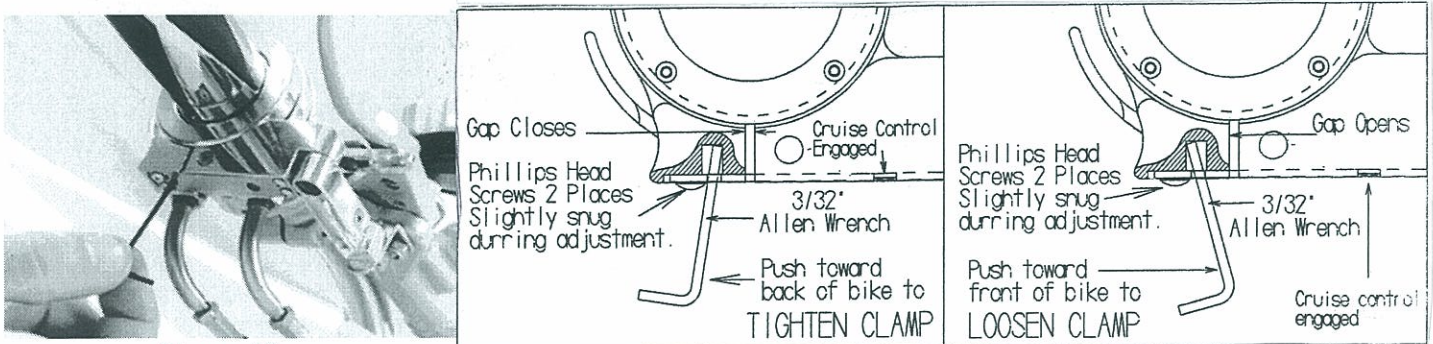

Figure 20
- 4.2 Insert the back side of a small Allen wrench into the tension adjustment hole(12). Pull the bottom of the wrench back in a prying motion, toward the back of the bike (**Figure 20**) to tighten, or push forward to loosen while turning the throttle to test the clamp tension. Stop as soon as the clamp will hold the throttle in place. Throttle should turn smoothly with moderate resistance.